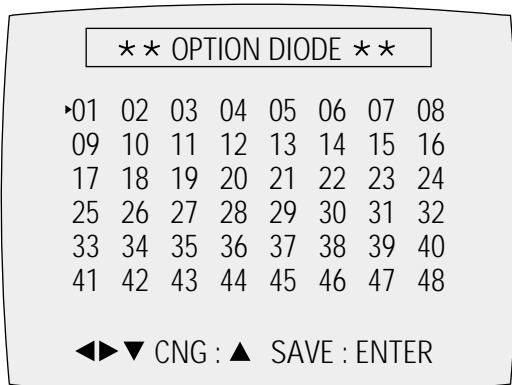

Fig.4-4
- 2) Press the “VOL +” button on the remote control about 5 seconds then option setting is appeared. (See Fig. 4-4)
- 4) If selecting the option number is completed, press the “DISPLAY” button of remote control. (If “DISPLAY” button is pressed, the selected number is changes reversed color. ; See Fig. 4-4)